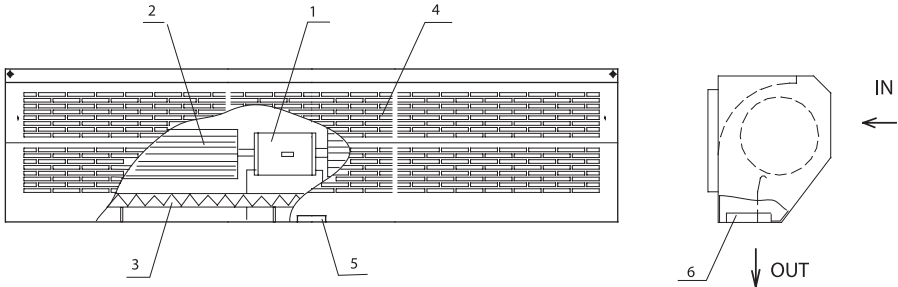

Figure 1. Air Curtain assembly.
4.1 The wind wheel with electromotor and heater (PTC type) are installed in metal cabinet of Air Curtain (Fig.1).